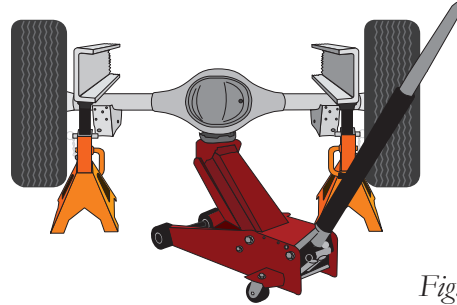

Fig. 2
1. Lift the vehicle and support the frame with safety stands. Leave enough room to drop the axle down low enough to set the air spring assemblies into position between the frame and axle. (Fig. 2).